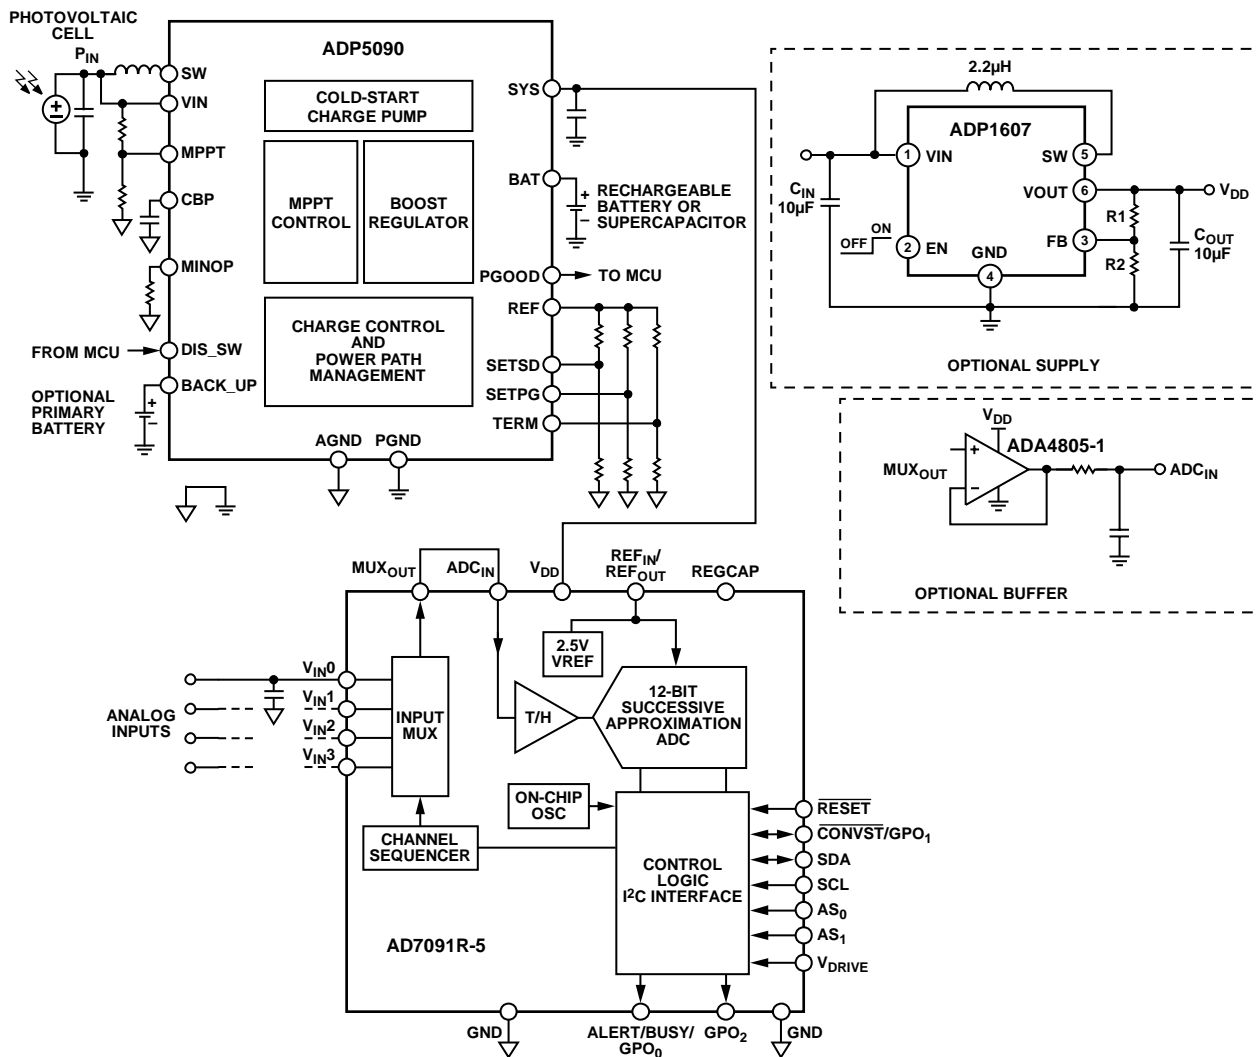

Figure 1. Low Power Data Acquisition System with Energy Harvesting Circuit (Simplified Schematic: All Connections and Decoupling Not Shown)
The circuit shown in Figure 1 is an ultralow power, multichannel data acquisition system that can be powered by a photovoltaic (PV) cell or thermoelectric generator (TEG). The circuit uses the industry's lowest power, multichannel, 12-bit successive approximation analog-to-digital converter (SAR ADC), the AD7091R-5, along with an efficient energy harvesting circuit based on the ADP5090 boost regulator. The ADC has a typical power consumption of 100  $\mu\text{W}$  on a single 3 V supply when sampling at 22 kSPS. Typical signal-to-noise ratio (SNR) is 68 dB for a 1 kHz input signal.
The SYS voltage output of the ADP5090 supplies the entire circuit as shown in Figure 1.